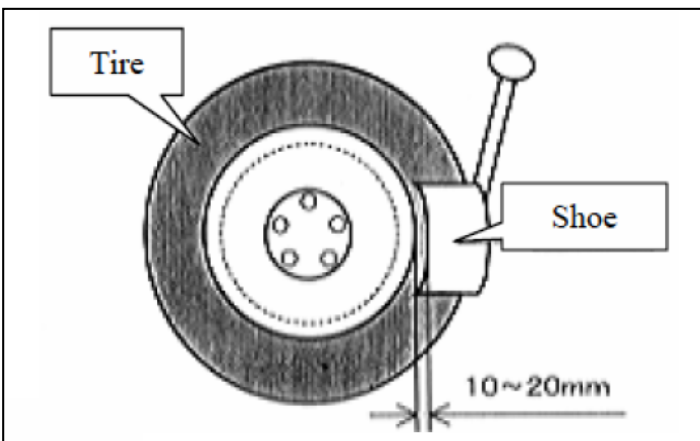

Figure 4
c. Carefully separate the upper tire bead from the wheel rim. See Figure 4.